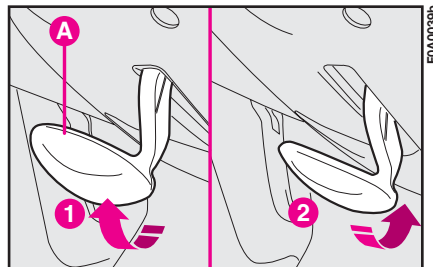

fig. 63
- 1) Move lever **A**-fig. 63 to position 1.